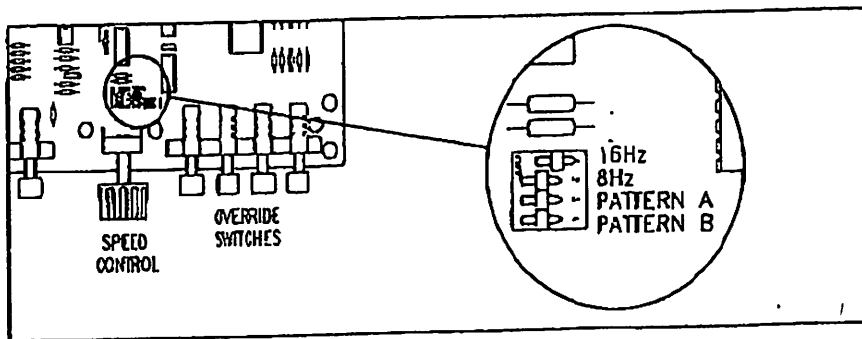

Fig 8. Internal switch settings
4. Located next to the speed control on the circuit board is a set of four small DIP switches as shown in Fig 8. Each switch has two positions. The switches may be adjusted as required.
When the Club Strobeflower controller leaves the factory, the four DIP switches are set as shown in Fig 8. This is as follows: